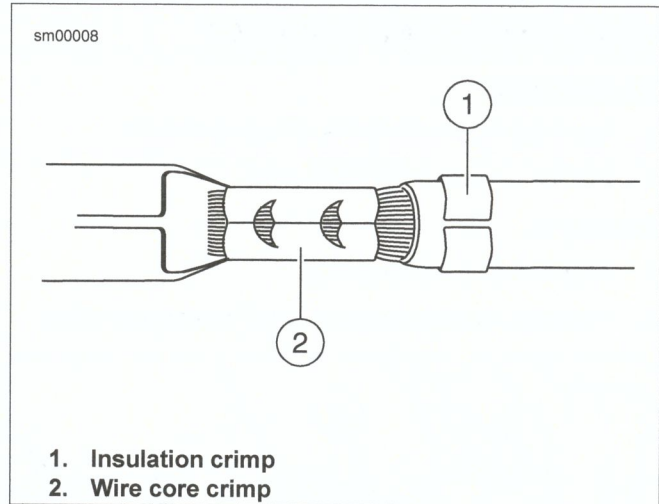

Figure A-28. Tyco 070 Multilock Unsealed Connector: Terminal Crimp
See Figure A-28. Inspect the wire core crimp (2) and insulation crimp (1). Distortion should be minimal.